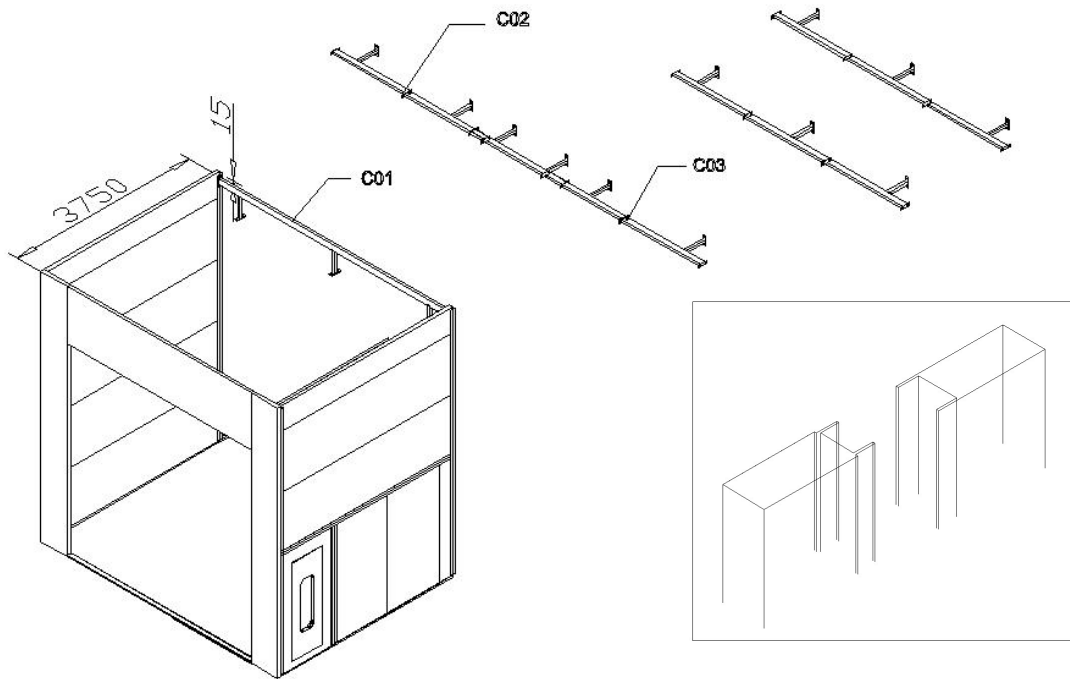

Fig. 2.6
1) Install the upright post, then put the wall from up to down. Connect the wall board in turn and fix the to the down U style slot with nail, make sure the gap should be smallest. Check the whole length of two sides wall board should be suit for the demand., install one cross beam to fix the two side wall (shown in Fig.2.6)